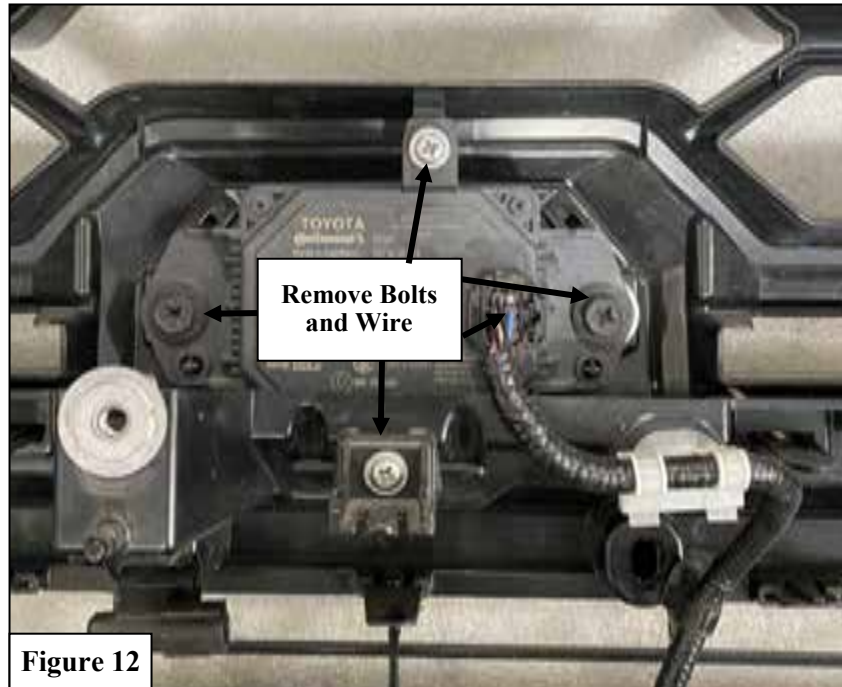

Figure 12
13. Carefully disconnect and remove the bolts that hold the cruise control sensor. See **Figure 12** for reference. **NOTE:** *When handling the sensor make sure to place the sensor in a safe space to prevent any malfunction.*